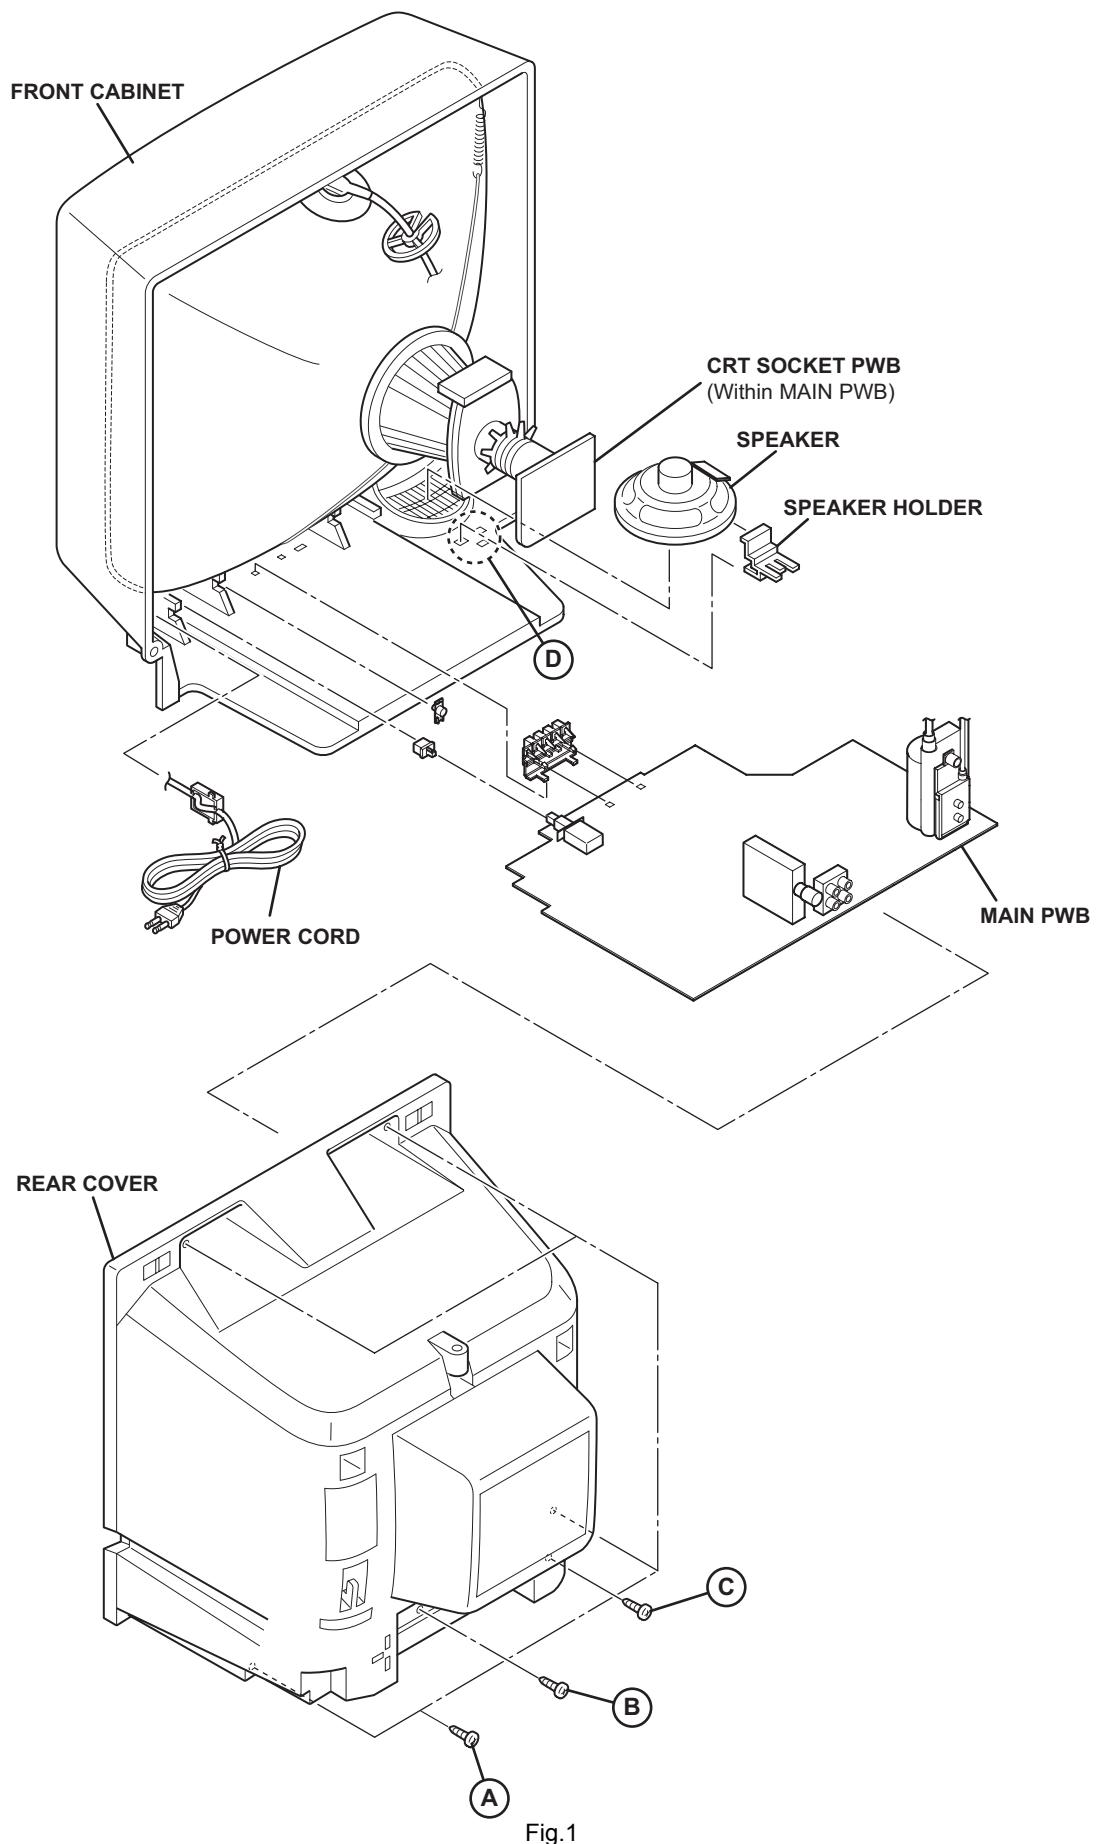

Fig.1
- (1) Remove the 4 screws **[A]**, 1 screw **[B]** and 1 screw **[C]** as shown in Fig.1.
- (2) Withdraw the REAR COVER toward you.